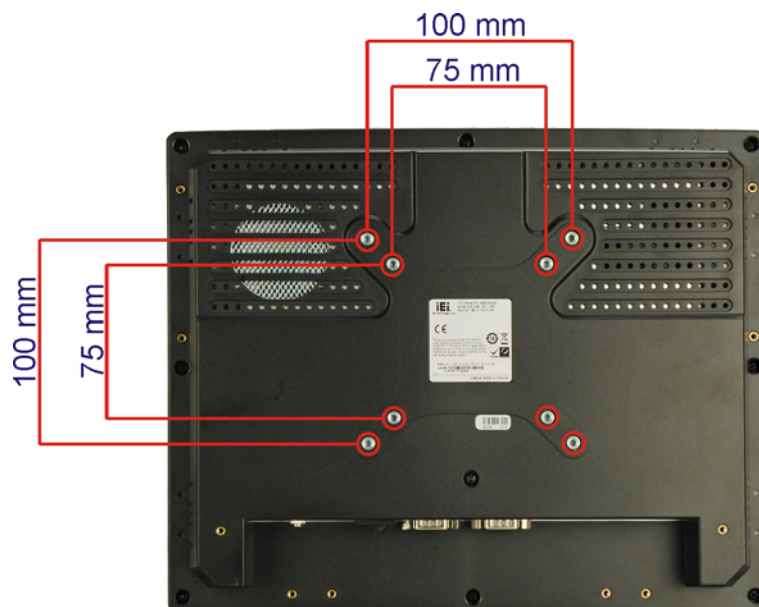

Figure 3-11: Arm Mounting Screw Holes
Step 3: Align the retention screw holes on the mounting arm interface with those in the flat panel PC. The AFL-xxx-9103 arm mount retention screw holes are shown in **Figure 3-11**.